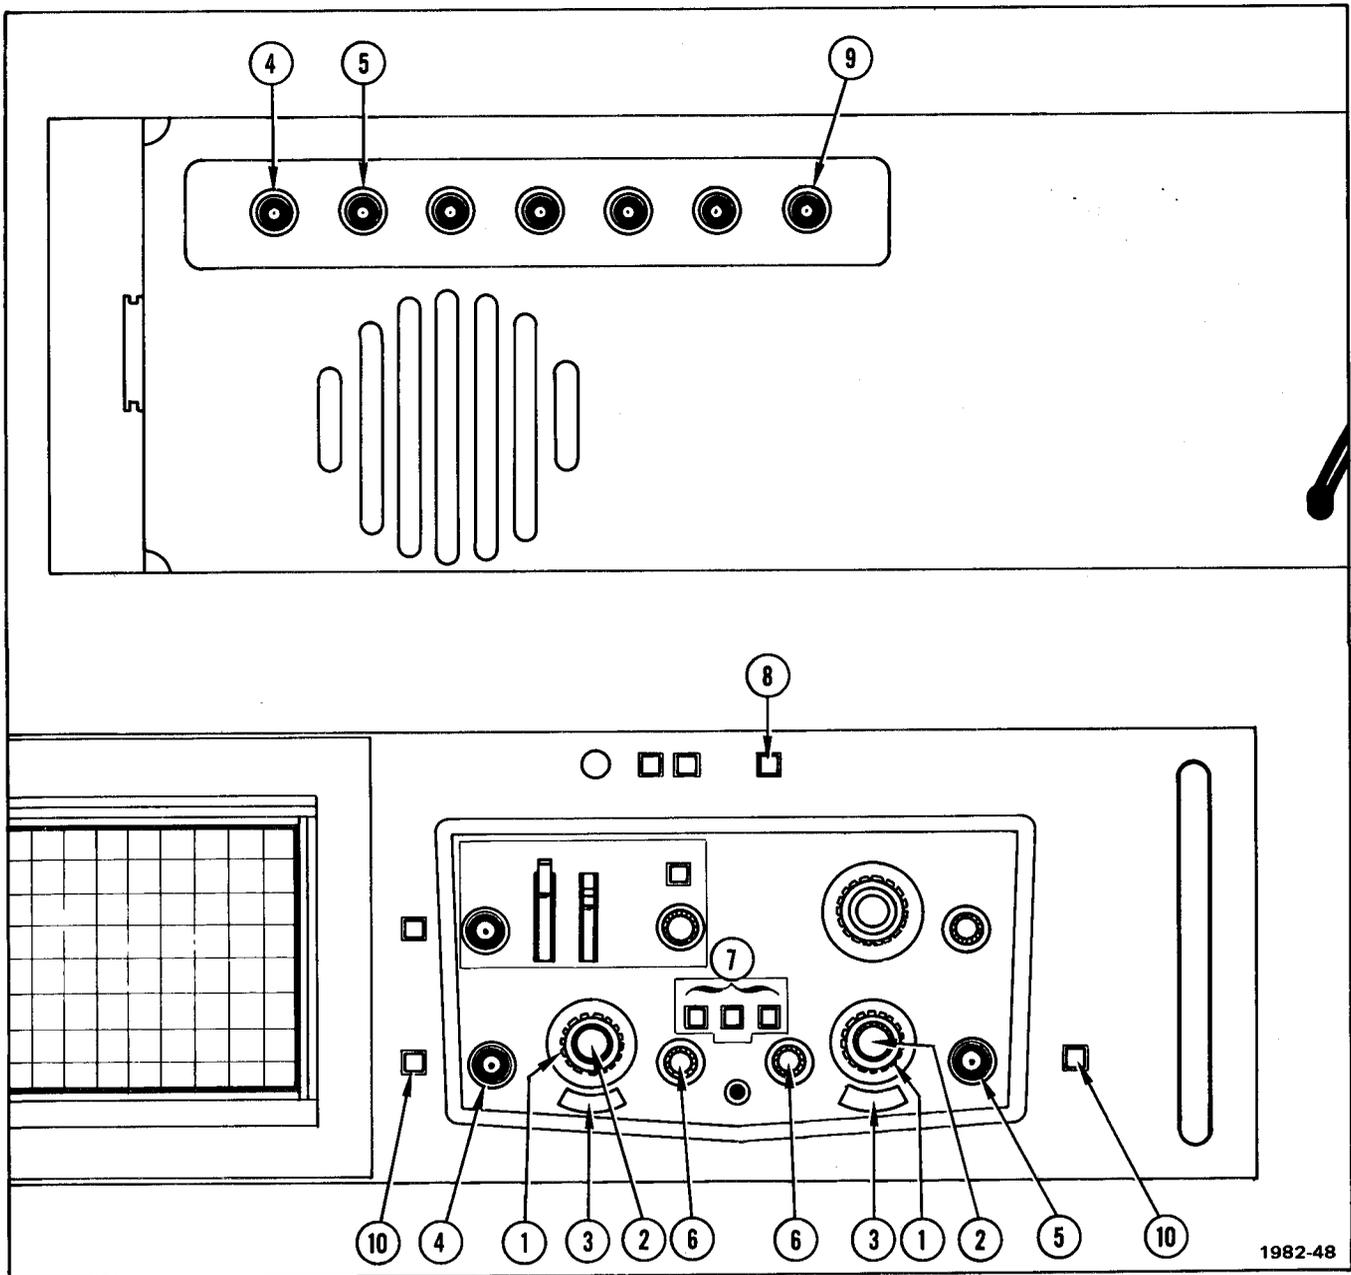
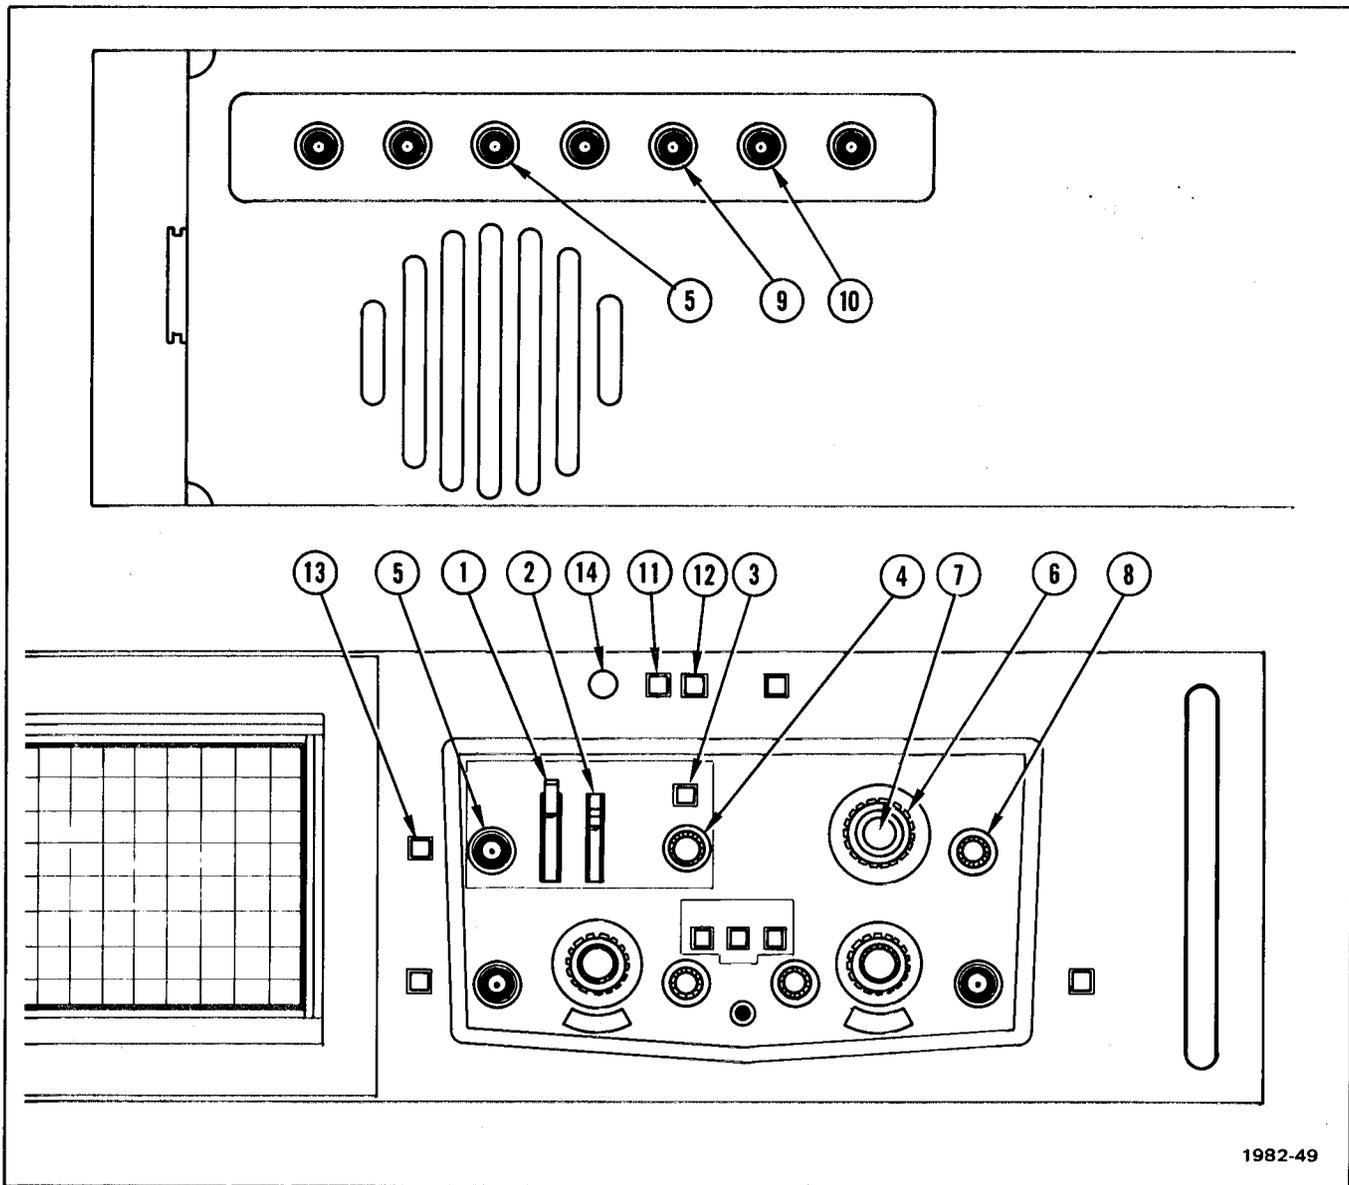

Fig. 2-8. T922R vertical amplifier controls, connectors, and indicators.
Fig. 2-9. T922R time base controls, connectors, and indicators.
- ⑮ SCALE ILLUM
- ⑯ AC RMS RANGE—Indicates the voltage from which the T922R is set to operate.
B. VERTICAL AMPLIFIER (FIG. 2-8)
- ① VOLTS/DIV
- ② VAR
- ③ Input Coupling
- ④ Channel 1 or Y Inputs—Two switch-selectable inputs for applying signals to Channel 1. One is mounted on the front panel and the other on the rear panel.
- ⑤ Channel 2 Inputs—Two switch-selectable inputs for applying signals to Channel 2. One is mounted on the front panel and the other on the rear panel.
- ⑥ POSITION
- ⑦ Vertical Mode—When operating in the DUAL TRACE mode you must manually select either CHOP or ALT (see control 8).
- ⑧ CHOP-ALT—Selects either CHOP or ALT dual trace modes. Use CHOP at lower sweep speeds and ALT at higher sweep speeds.
- ⑨ COMP VERT SIG OUT—The signal available at this connector is a sample of the vertical signal being displayed plus a dc component proportional to the the vertical position of the display.
- ⑩ FRONT-REAR—Two push-button switches, one for CH 1 and one for CH 2, which select either the front or the rear vertical inputs.
C. TIME BASE (FIG. 2-9)
- ① SOURCE
- ② MODE—To use the AUTO, NORM, or TV SYNC modes the SINGLE SWEEP/REPETITIVE button must be set to REPETITIVE (out).
- ③ SLOPE
- ④ LEVEL
- ⑤ EXT TRIG or X—Two switch-selectable inputs for external trigger or X axis signals. One is mounted on the front panel and the other on the rear panel.
- ⑥ SEC/DIV
- ⑦ X1-X10
- ⑧ POSITION